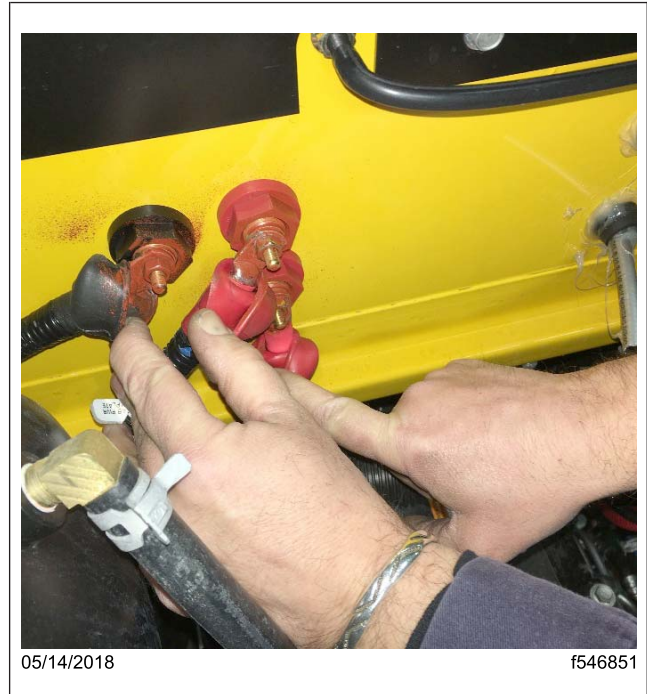
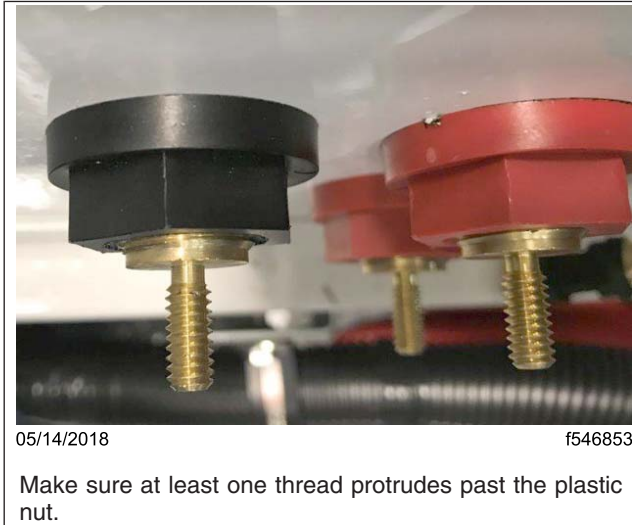

Fig. 2, Removing Connector Protective Cover
Fig. 4, Correctly Installed Pass-Through
4. Pull back the covers on the power cable stud connectors. See Fig. 2. Inspect each cable stud to make sure at least one thread protrudes past the plastic nut. See Fig. 3 and Fig. 4.
2. If not already done, pull back the cover on the power cable stud connector. See Fig. 2.